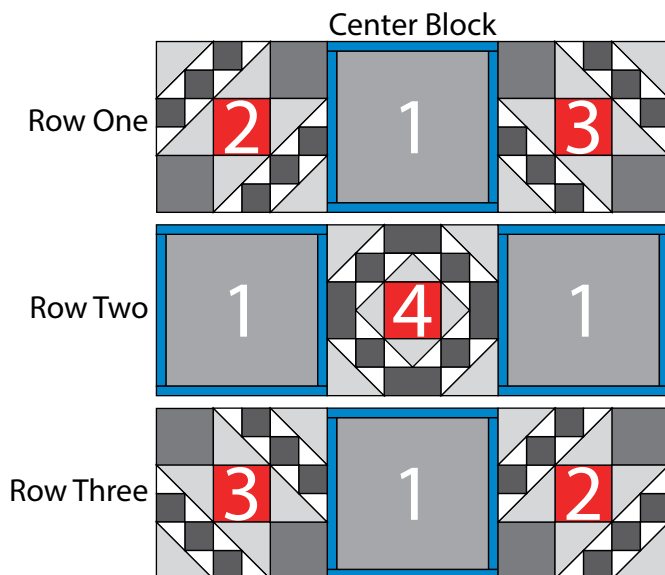

Fig. 20
17. Sew together (1) Block Two square, (1) Block One square and (1) Block Three square, in that order from left to right to make, Row One (Fig. 20).
18. Sew (1) Block One square to each side of the Block Four square to make Row Two (Fig. 20).
19. Sew together (1) Block Three square, (1) Block One square and (1) Block Two square, in that order from left to right, to make Row Three (Fig. 20).
20. Sew together the (3) Rows from Steps 17-19, lengthwise and in numerical order from top to bottom, to make the 54 1/2" x 54 1/2" Center Block (Fig. 20).